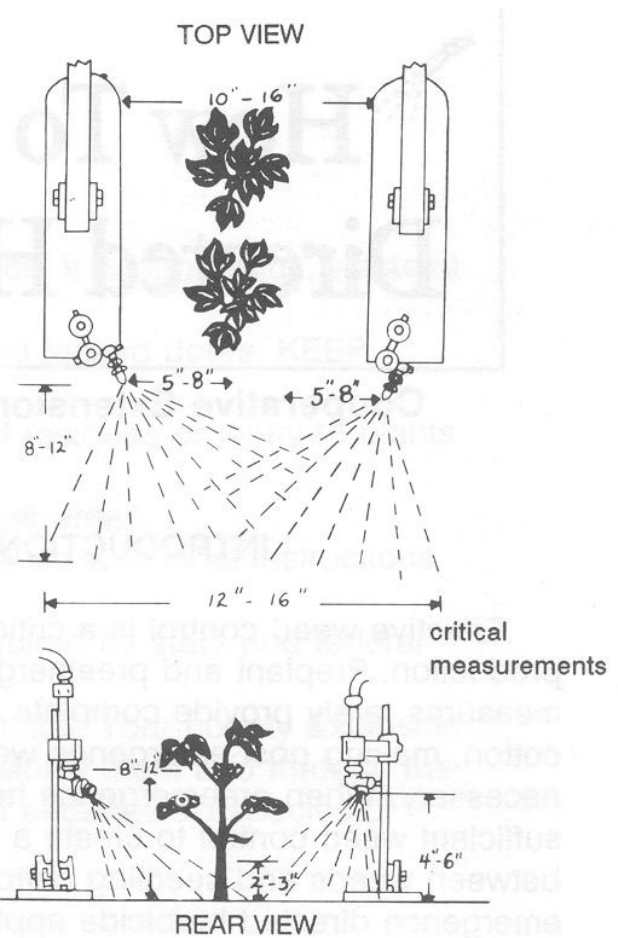

Figure 3
*Precise directed herbicide application on rough, uneven surfaces is difficult. Under such conditions, minimize spray overlap and contact with young cotton stems. Aim spray patterns to the base of the stems to reduce the potential for excessive coverage and cotton injury (Figure 3).